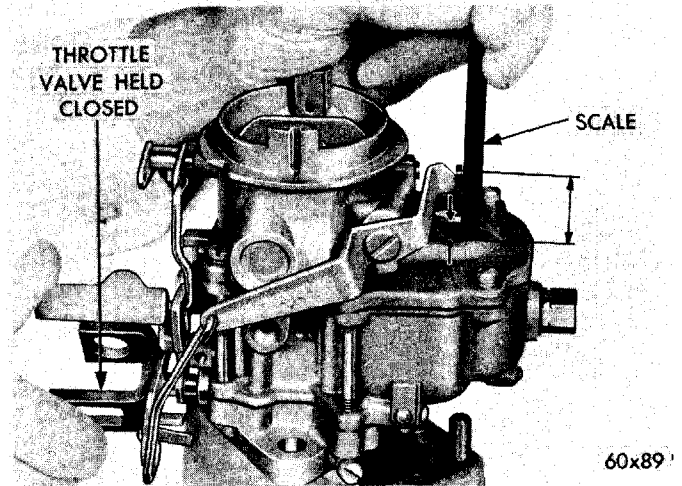

Fig. 15 — Measuring Accelerator Pump Travel
(1) Back off the idle speed adjusting screw. Open the choke valve so that the throttle valve can be completely seated in the carburetor bore. Be sure the pump connector rod is in the center hole of the throttle lever.
(2) Close the throttle valve tightly. Now, measure the distance between the top of the air horn and the end of the plunger shaft as shown in Figure 15. This measurement should be $\frac{27}{32}$ ".
(3) To adjust the pump travel, bend the pump connector rod, using Tool T109-213, at the lower angle until correct travel has been obtained.